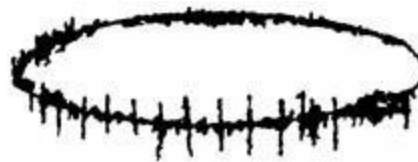

Fig. 14
(10) Fluorescent lamp (Fig. 14), waveform characteristics: fence like, pulse with the same amplitude, with two clusters of pulse groups symmetrically appearing in positive and negative half waves. Reason: fluorescent lamp lighting.